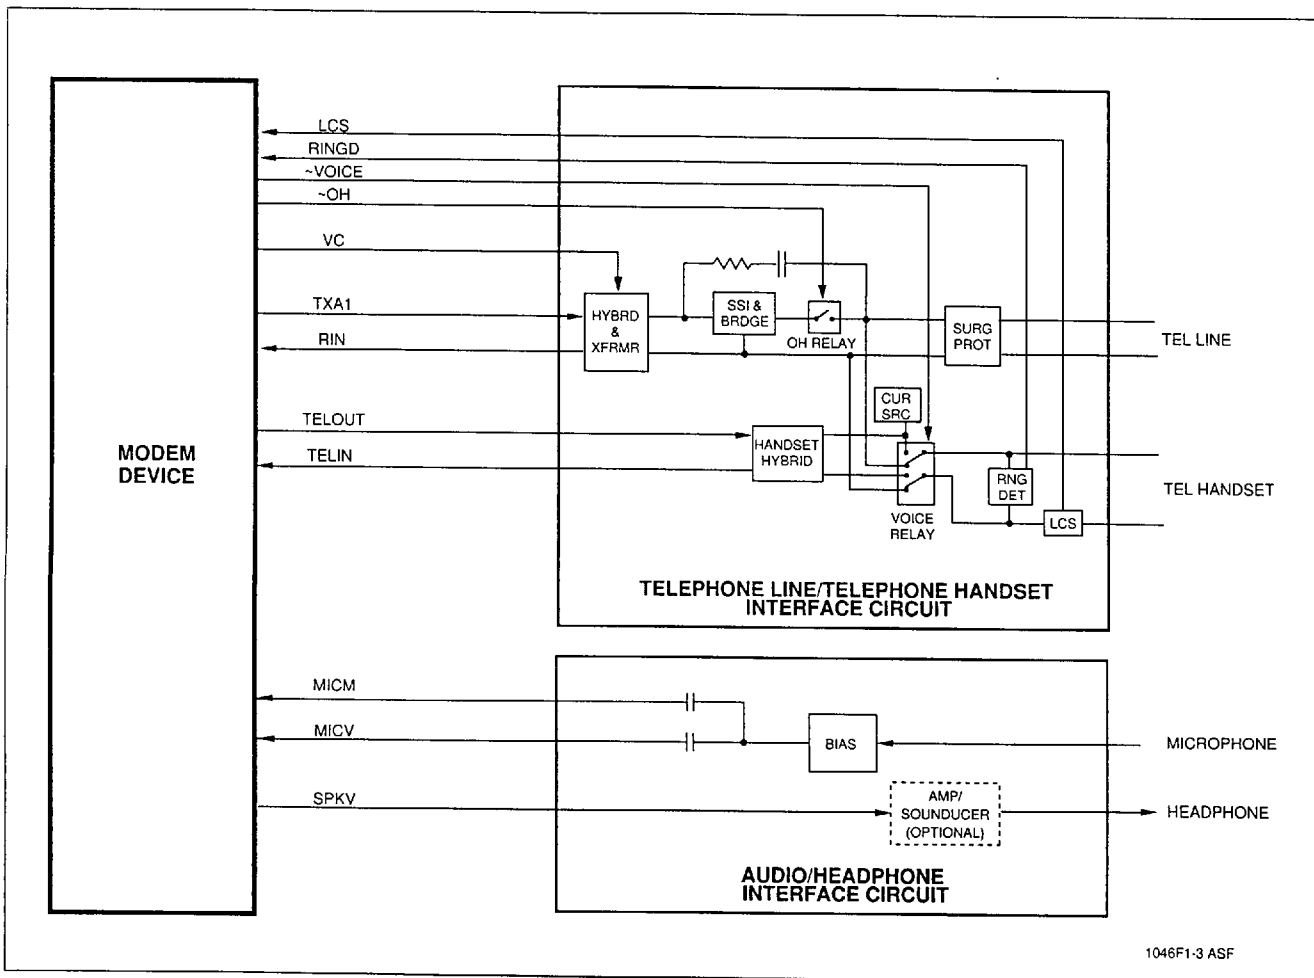
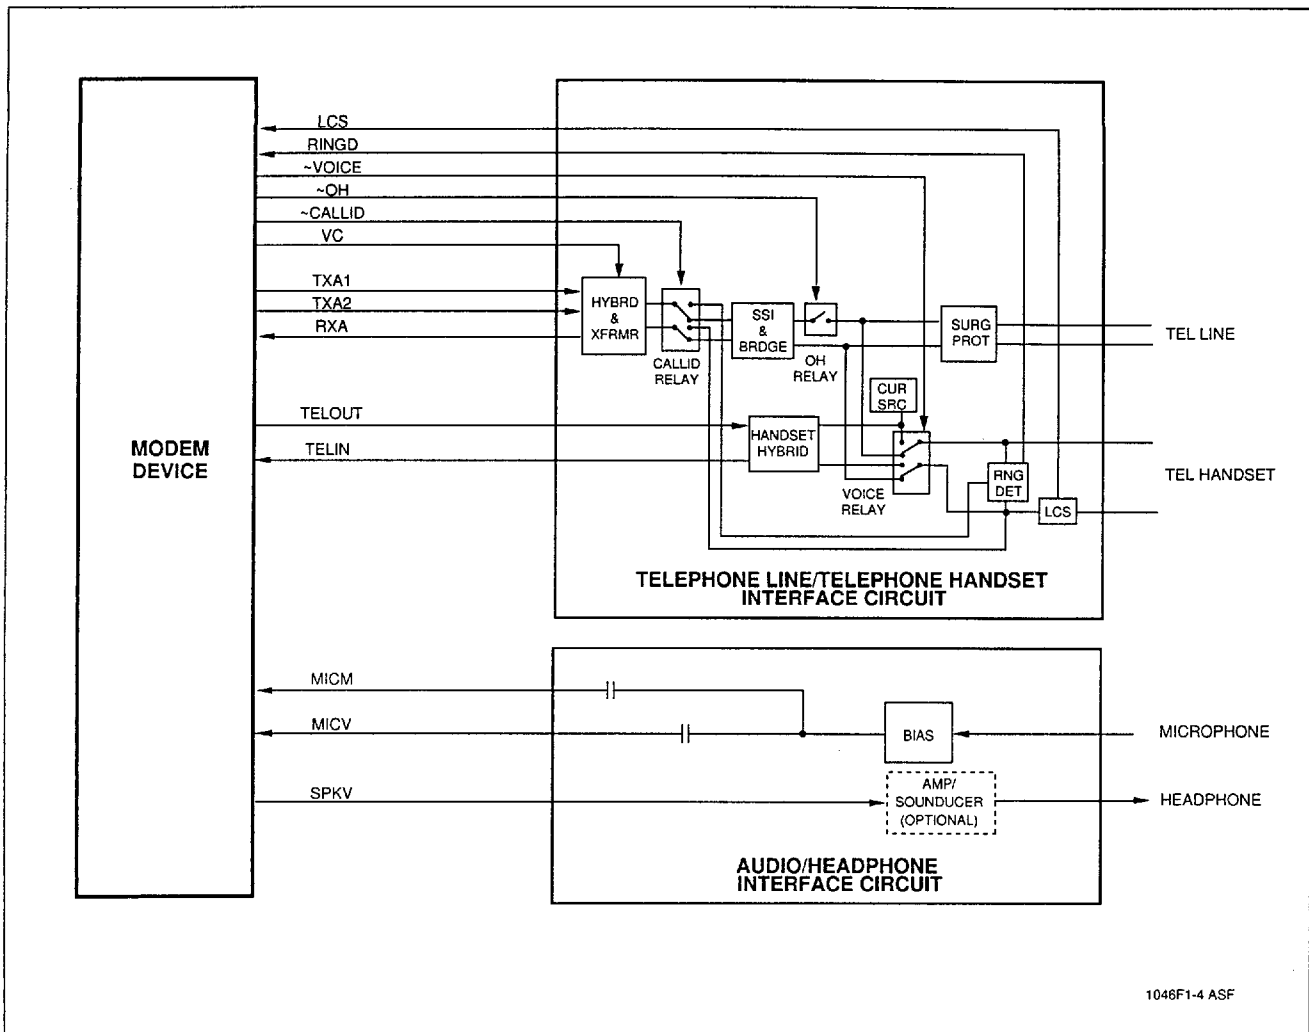

Figure 1-3. 2-Relay Telephone Line/ Telephone/Audio Signal Interface (U.S.)
Figure 1-4. 3-Relay Telephone Line/ Telephone/Audio Signal Interface (U.S.)
The Telephone Line/Telephone/Audio Signal Interface can support either a 2-relay telephone line interface without Caller ID relay (Figure 1-3) or a 3-relay telephone line interface using a Caller ID relay (Figure 1-4). In either case, the Caller ID function is supported.
- Caller ID (~CALLID) (The 2 relay design shown in Figure 1-3 supports the Caller ID function without using the ~CALLID relay control output.)